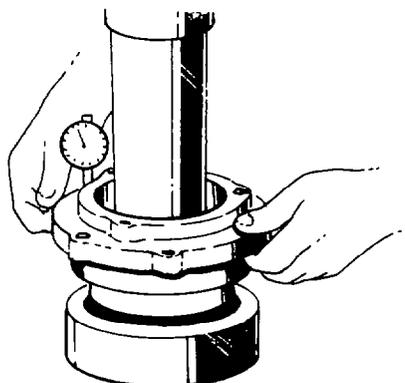

Fig. 242 — Measuring End Play — Rear Drive Shaft
- With the rear drive shaft assembly still in the press, establish the bearing end-play as follows: with the tubular tool seated against the outer bearing cone, apply a load of 2273 kg (5000 lb). Using a dial indicator check that the end-play is between 0.178 – 0.254 mm (0.007 – 0.010 in.) (see fig. 242). If the end-play is not within these limits, use a thinner spacer to decrease or a thicker spacer to increase the end-play.